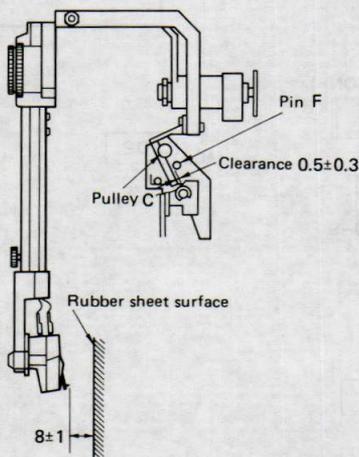

Fig. 2
- 2) With the tone arm raised, turn the cam pin E to adjust the stylus height such that its tip is 8 ± 1 mm above the turntable. (See Fig. 2)